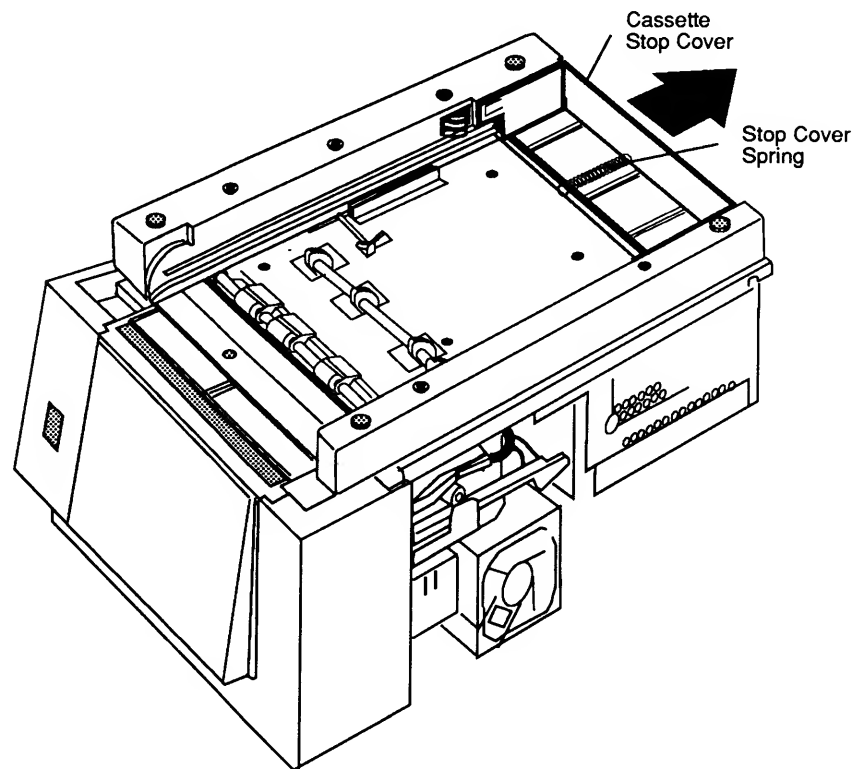

Figure 2-3 Cassette Stop Cover
2. Unhook the cassette stop cover spring attached to the cassette feeder tray (**Figure 2-3**).
3. Remove the cassette stop cover from the feeder tray and set it aside (**Figure 2-3**).